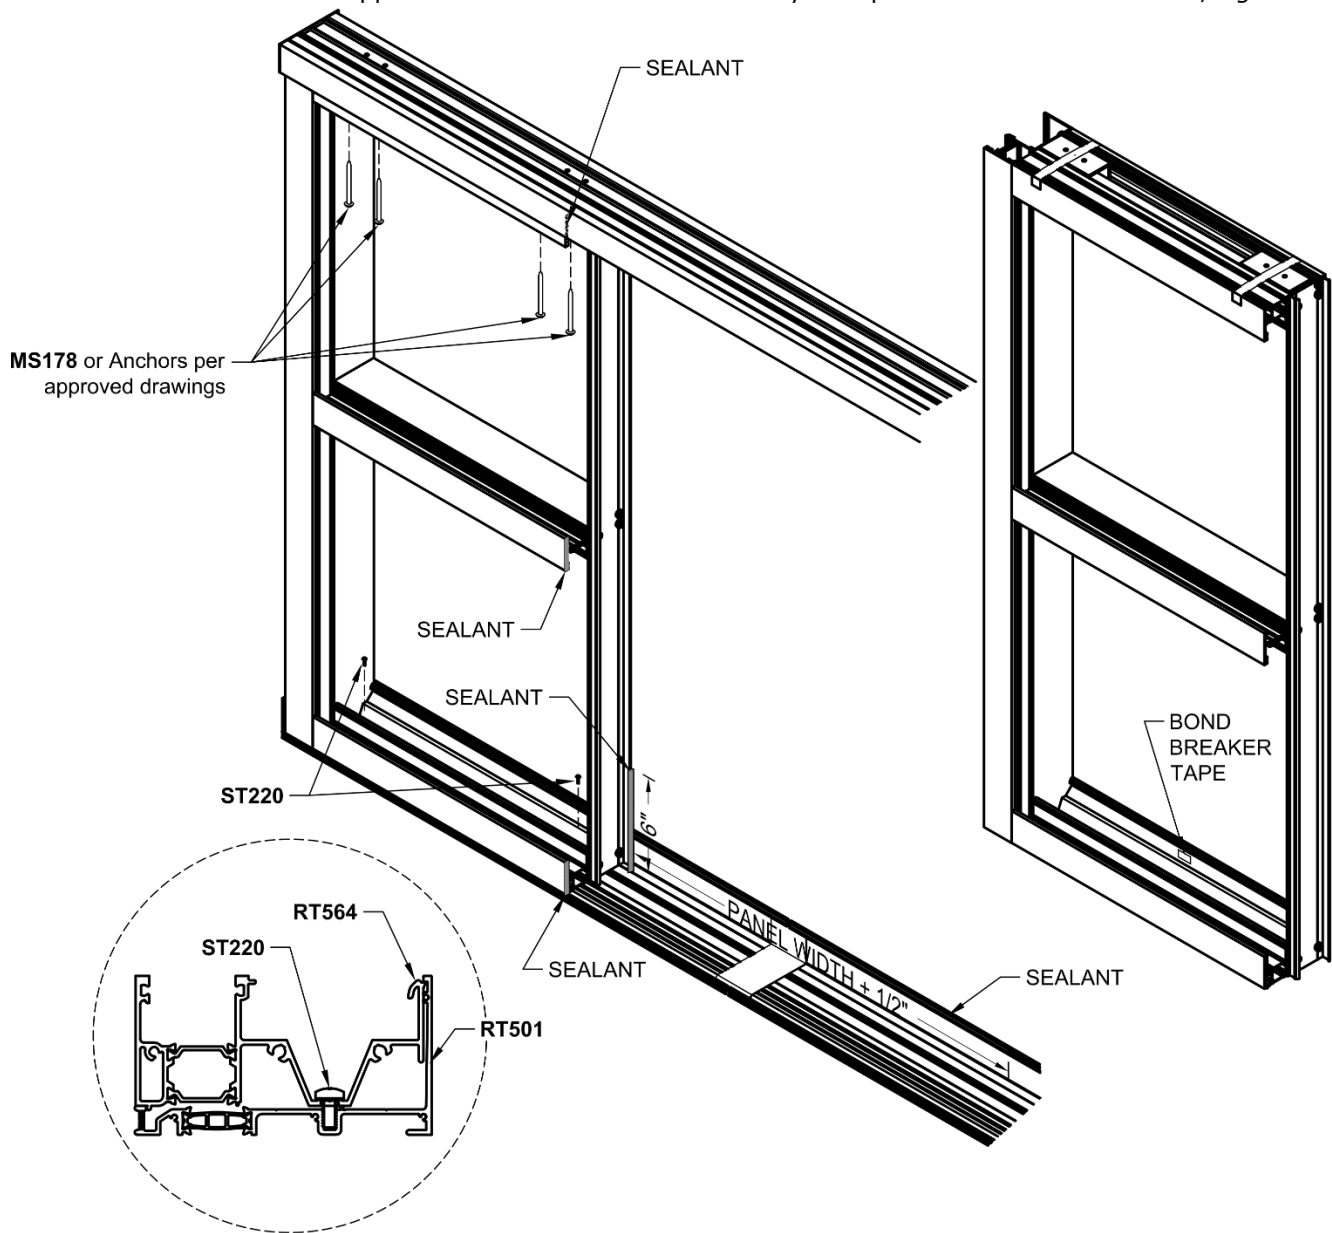

Figure 76: Panel Installation, Additional Panels
- 20.7 Remove any debris from the Sill and secure the panel to the Sill Receptor with **ST22000** fasteners, *Figure 76*. Do not cap seal fasteners.
- 20.8 Match drill holes at Head anchor points into Head Receptor and attach panel with **MS17842** fasteners or approved Anchors. It is not necessary to cap seal fasteners. Reference, *Figure 76*.
- 20.9.3 Reference *Figure 76* for all sealant locations.
20.9.5 Reference *Figure 76* for all sealant locations.
20.11 Just prior to placing the next panel, apply Sealant the full width of the panel bay plus 1/2" in the top of the Sill Receptor. Reference *Figure 76* for location.
20.15 Remove any debris from the Sill and secure the panel to the Sill Receptor with **ST22000** fasteners, *Figure 76*. Do not cap seal fasteners.
- 20.16 Match drill holes at Head anchor points into Head Receptor. It is not necessary to cap seal fasteners. Reference, *Figure 76*.